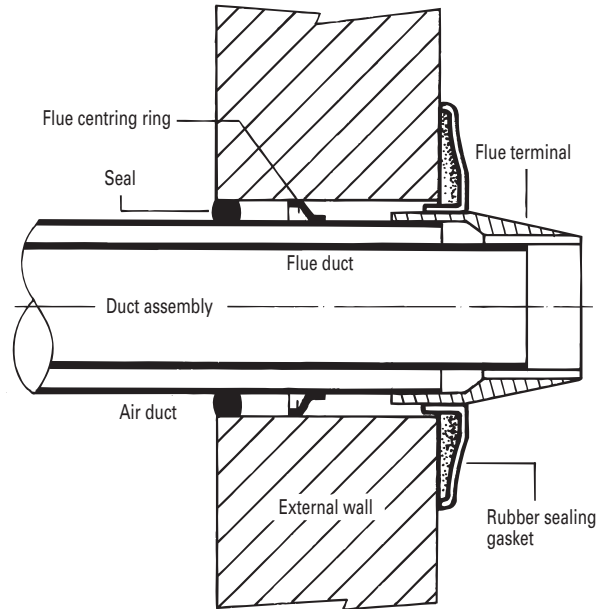

Fig. 33. Gas control valve adjustment.
Disconnect the electrical supply plug from the solenoid operator on the gas valve adjacent to the Modureg actuator by unscrewing the retaining screw. See Fig. 33.
Reconnect the electrical supply plug to the gas valve. See Fig. 33.
Loosen the burner pressure test point screw and connect a pressure gauge. See Fig. 33.
If the burner pressure is low check that the supply pressure at the gas valve is at least 19 mbar (7.6in wg). See Fig. 33.
a). Remove the grey plastic cover over the pressure adjustment screws on the gas valve. Place a small screwdriver in one of the slots and carefully lift the cap. See Fig. 33.